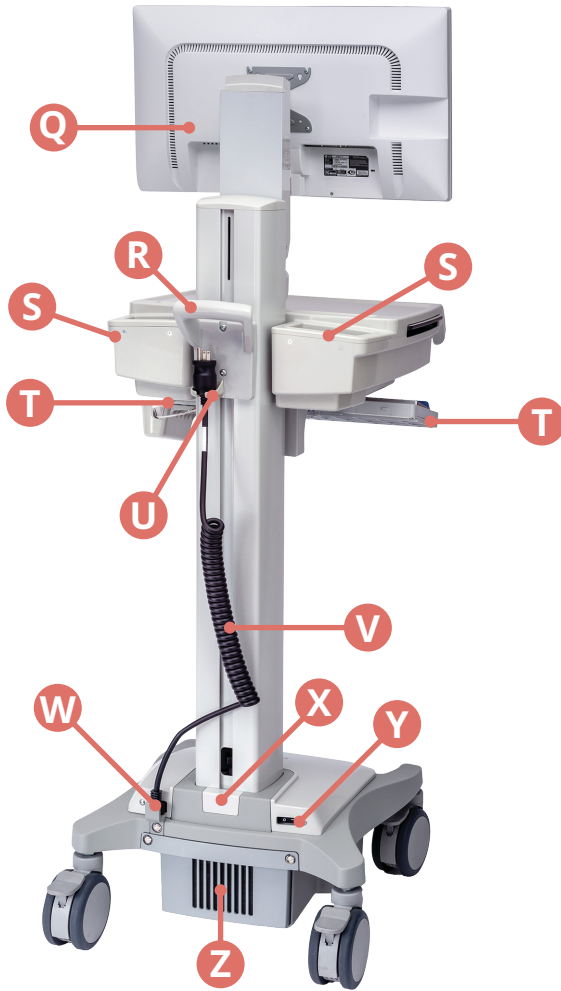

Figure 2: Components of Trio Carts (rear view)
1. Remove the protector covering the power jack (**W** on Figure 2, page 11) by removing the slotted D-Ring screw that secures it to the cart.
4. Put the plug in the power cord holder (U on Figure 2, page 11).
Turn on the power switch, located on the left rear side of the base (Y on Figure 2, page 11).